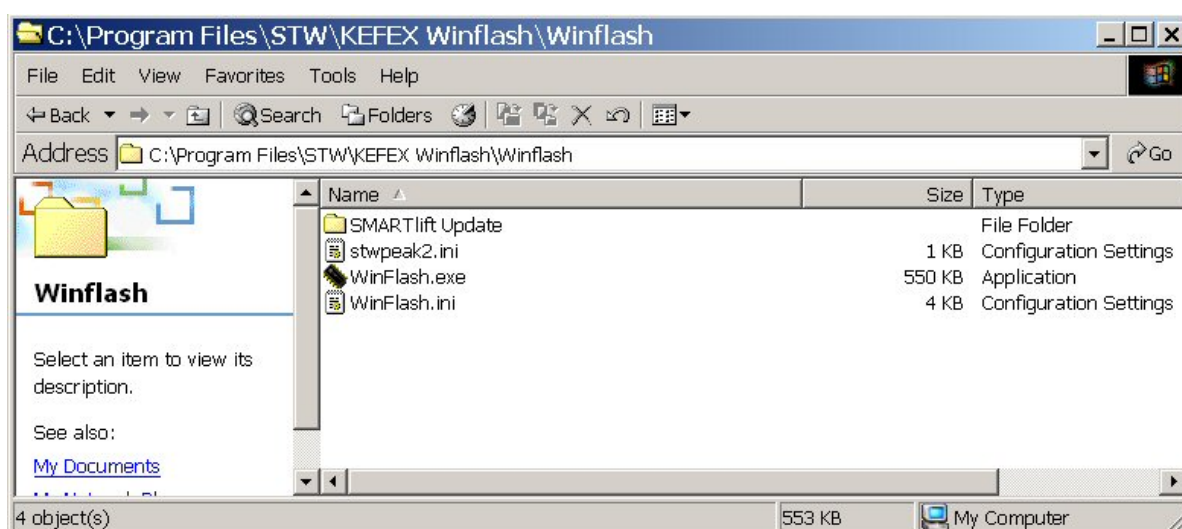

Figure 1
2. Delete the file WinFlash.ini in the location shown in Figure 1 above.
3. The folder 'SMARTlift Update' contains two subfolders called 'WinFlash,ini for Windows 2000' and 'WinFlash,ini for Windows 2000', depending upon your operating system copy the file WinFlash.ini into the location shown in Figure 1.